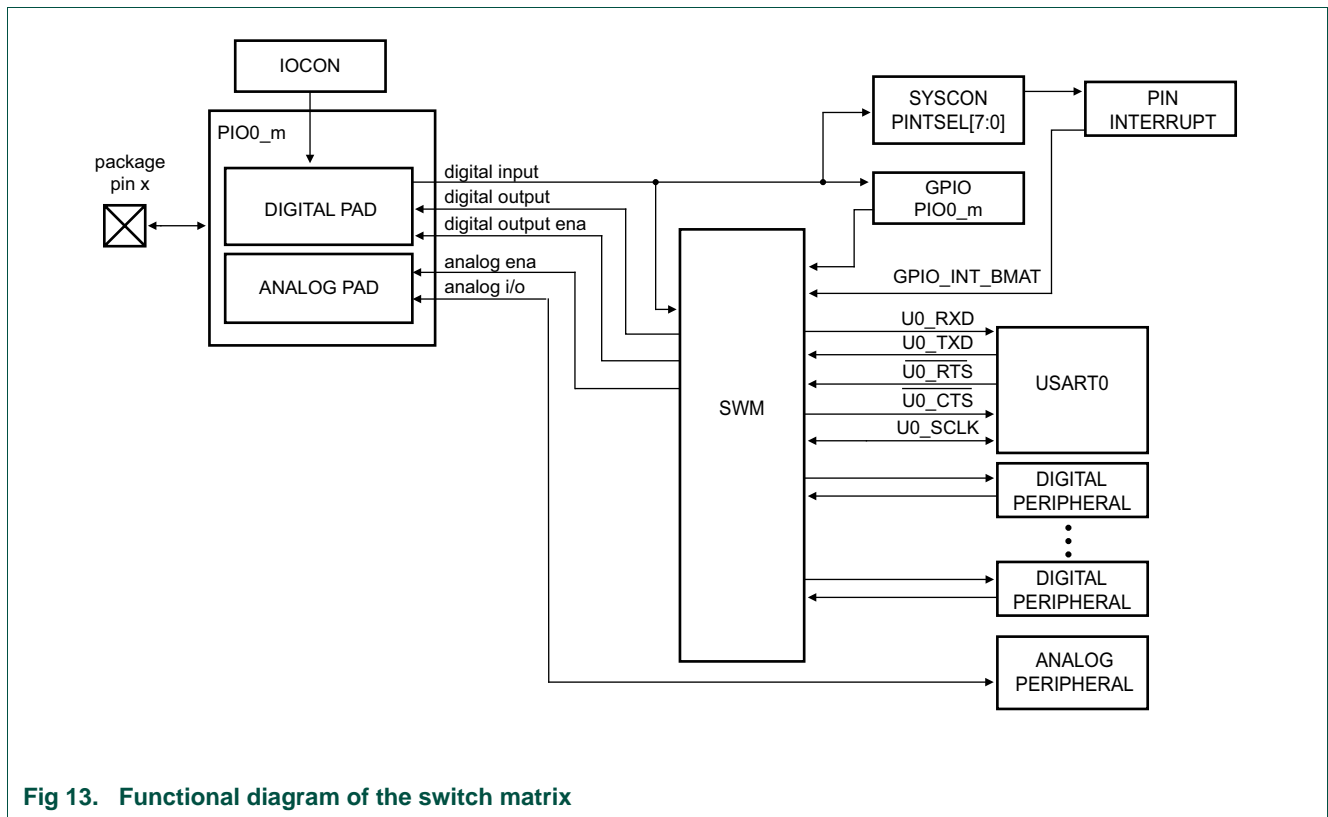

Fig 13. Functional diagram of the switch matrix
**Remark:** From all available movable and fixed-pin functions, you can assign multiple functions to the same pin but no more than one output or bidirectional function (see Figure 13). Use the following guidelines when assigning pins: